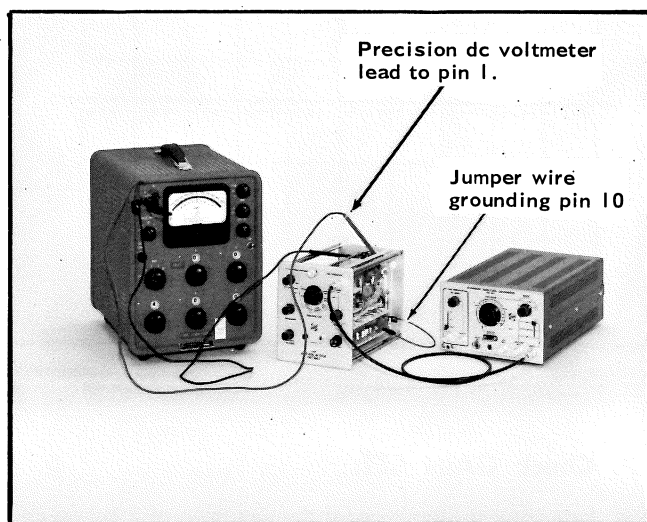

Fig. 5-11. Test equipment setup for step 18.
e. Connect the precision dc voltmeter between pin 1 of the interconnecting plug and ground. See Fig. 5-11.